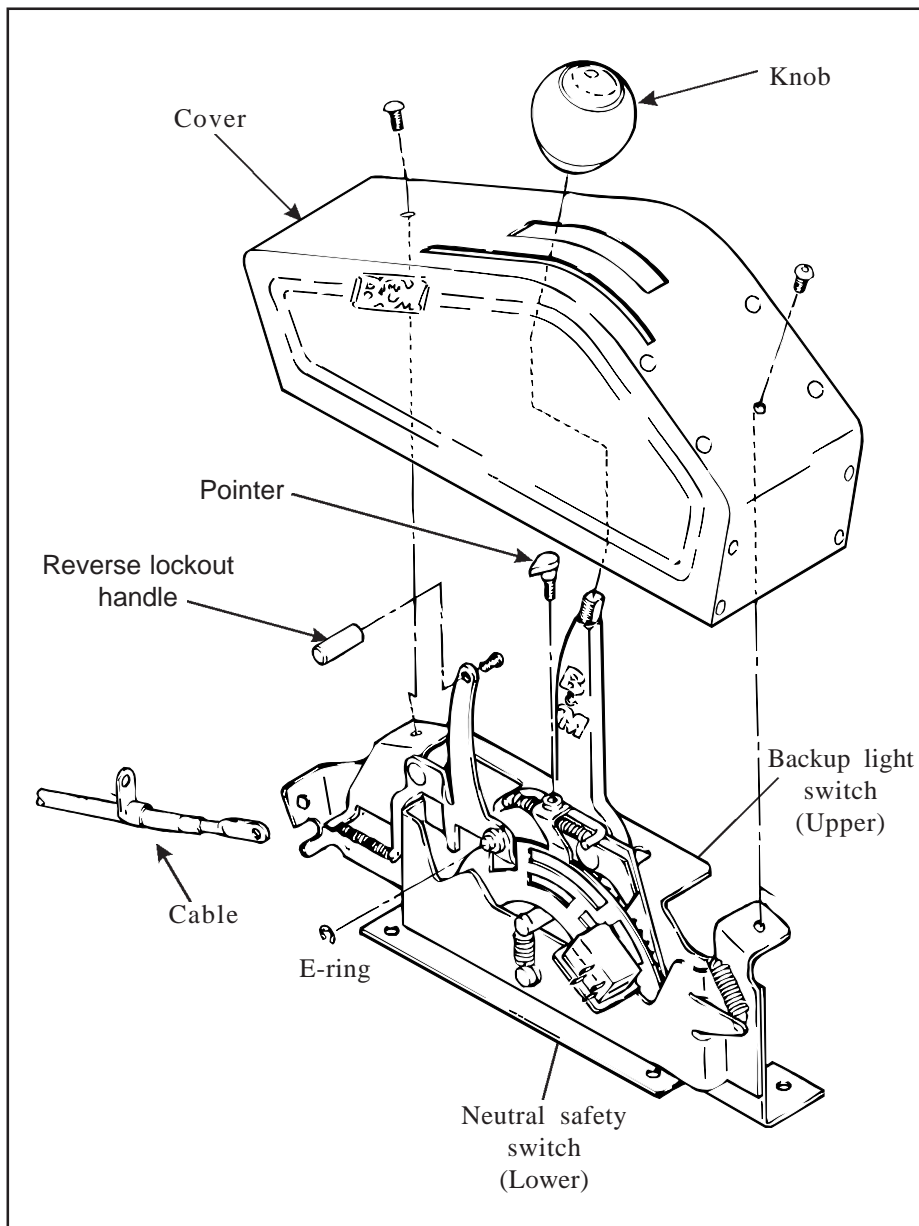

Figure 1
**STEP 5.** Install the cable on shifter as shown in **figure 1**. The cable attachment tab should be bolted to the outside surface of the shifter base using  $\frac{1}{4}$ " X  $\frac{1}{2}$ " bolt, lock washer and nut. Install E-Ring to secure the cable.
**STEP 6.** Install the backup light switch and the neutral safety switch in place on the shifter mechanism. Install using two #4-40 screws, nuts and lock washers, as shown in **figure 1**. If necessary bend the fingers slightly so that they engage the slots. **Beware,** Over tightening the switch attachment screws will crack the switch housings. Adjust switches so that the neutral safety switch (the lower switch) operates in Neutral and Park only and so that the backup light switch (the
neutral safety system you have. If the key will not turn to the Start position unless the stock shifter is in Park or Neutral, you have a mechanical interlock, otherwise you have a neutral safety switch. With either type, disconnect battery ground cable to prevent accidental shorts. If you have a neutral safety switch, locate and identify the neutral safety wires (engine will not crank unless these wires are connected together). Extend the wires from the GM switch to the shifter. Strip 1/4" insulation off the wires and install slip-on terminals supplied in kit. Crimp terminals onto wires using a crimping tool or pliers. Connect the Neutral safety wires to the **LOWER** switch and the backup light wires to the **UPPER** switch, see figure 1. Tape terminal connections and all other connections to prevent shorts.
On the C-4 and C-5 transmissions it is necessary to completely remove the stock Neutral safety/Backup light switch in order to install the **B&M** transmission shift lever. On C-4, C-5 and C-6 transmissions, it will be necessary to hook up the Neutral safety/Backup light switches on the **B&M Pro Ratchet**. Locate and identify the Neutral safety (the engine will not crank unless these wires are connected together), and Reverse light wires. Disconnect Battery ground cable before beginning to wire the Neutral safety and Reverse light switches. Reroute the wires to the **B&M Pro Ratchet**. Strip 1/4" insulation off wires and install supplied slip-on terminals. Crimp terminals onto wires using a crimping tool or pliers. Connect the Neutral safety wires to the **LOWER** switch and the Reverse light wires to the **UPPER** switch, see **figure 1**. Tape terminal connections to prevent shorts. Reconnect battery ground cable, disconnect coil wire and set the parking brake. Check switch operation by attempting to start motor in each shifter
'66-'68: The Neutral safety switch will continue to function normally. It will not be necessary to hook up the Neutral safety switch wires on the shifter. Disconnect the battery ground cable before wiring the Backup light switch. Locate the original Backup Light switch on the steering column or console shifter. Run these wires to the **UPPER** switch on the **B&M Pro Ratchet**, see figure 1. Reconnect ground wire and check light for proper operation. Adjust switches on the shifter if required.